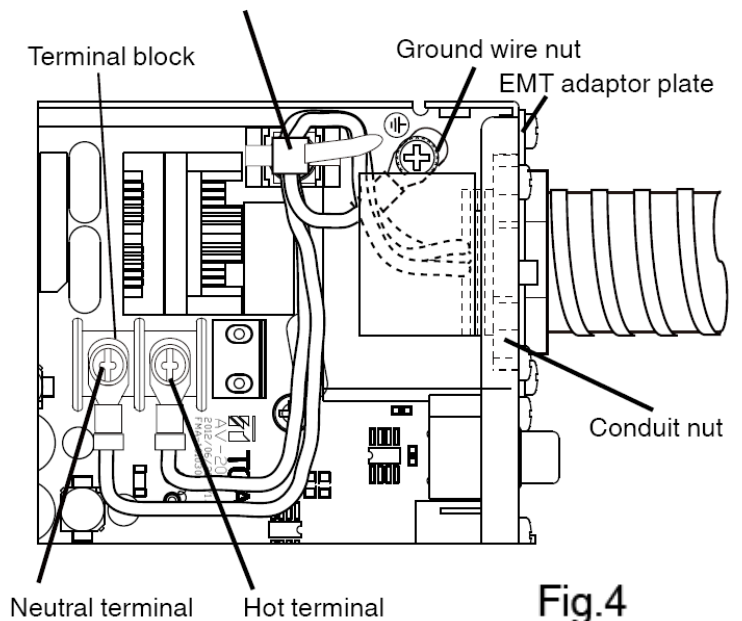

Fig.4
9. Install the EMT adapter plate with the conduit attached (Fig.4) into the opening from which you removed the AC receptacle. Use the Philips head screws that you removed in step 2 to attach the EMT adapter plate.
10. Slide the conduit nut (Fig.4) over the bundle of the wires exiting the conduit and onto the conduit itself. Hand tighten the nut.
15. Ensure that the conduit nut from step 10 (Fig.4) firmly secures the conduit EMT adapter plate.